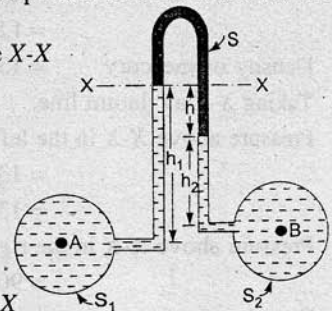

Fig. 2.21
2.7.2 Inverted U-tube Differential Manometer. It consists of an inverted U-tube, containing a light liquid. The two ends of the tube are connected to the points whose difference of pressure is to be measured. It is used for measuring difference of low pressures. Fig. 2.21 shows an inverted U-tube differential manometer connected to the two points A and B. Let the pressure at A is more than the pressure at B.